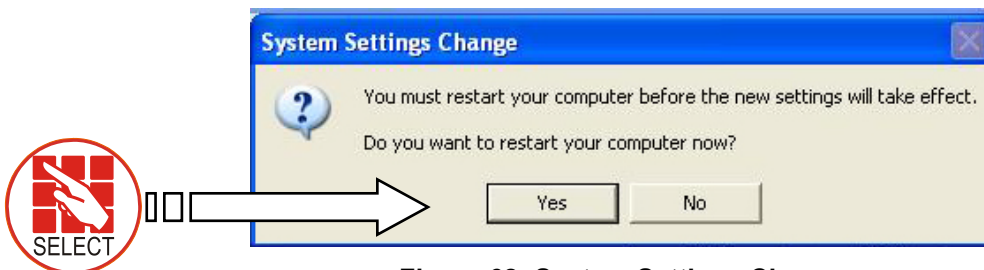

Figure 62: System Settings Change
7. **Figure 62** is shown. Select **YES** to restart the computer.